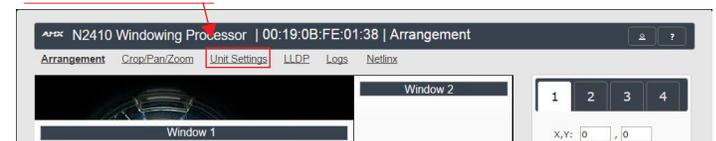

FIG. 3 ACCESSING CONFIGURATION PAGES
- Click the **Unit Settings** link as shown in FIG. 3.